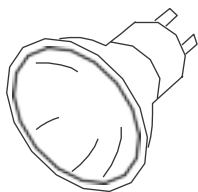

Fig.16: Halogen lamp replacement
5. Support the bulb to prevent it from dropping as it leaves the grip of the bayonet fitting (Fig. 16).